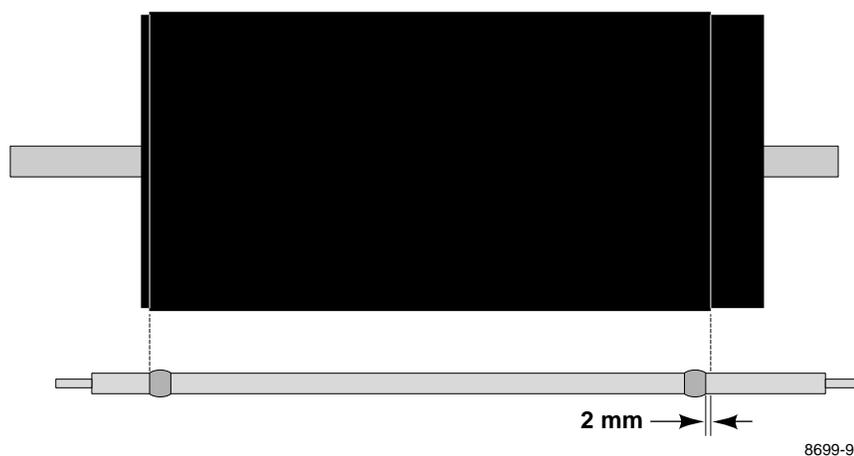

Figure 6-4. Proper front idler roller-to-drum alignment (to prevent wrinkling)
2. Inspect the front idler roller. Ensure that the two sleeves are properly located on the idler roller and that they line up correctly with the drum. The sleeves should be firmly attached to the roller; they should not slide or rotate on the roller. Note that the right sleeve is located 2 mm (0.08 in.) inside the right notched edge of the drum. Refer to Figure 6-4, “Proper front idler roller-to-drum alignment (to prevent wrinkling),” on page 6-17.